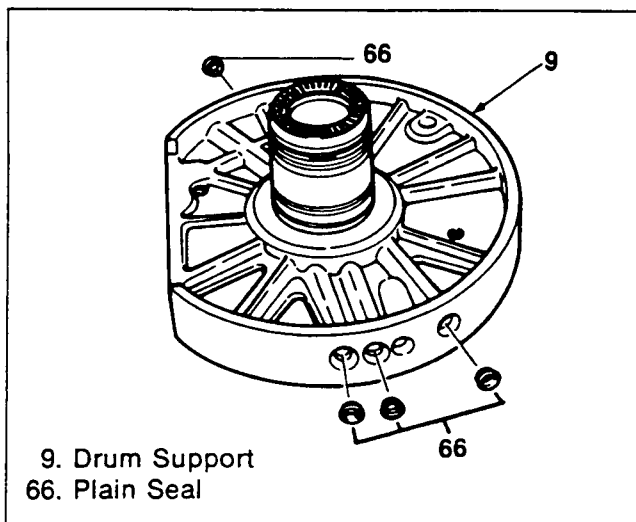

Figure 279. Drum Support Installation (1)
Drum Support (Figures 279, 280, 281 and 282)
2. Apply special grease to four plain seals and attach them to the drum support (figure 279).